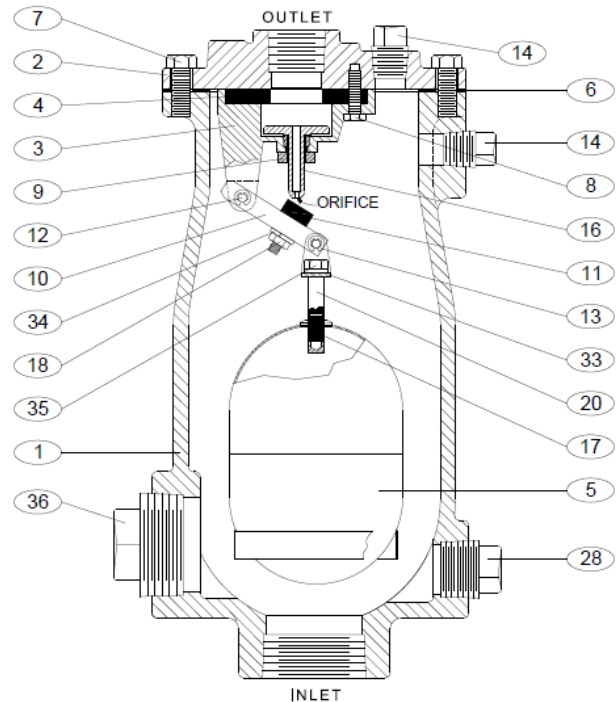

FIGURE 2. 1"-4" WASTEWATER COMBINATION AIR VALVE
The standard Wastewater Combination Air Valve body and cover are cast iron. See the specific Materials List submitted for the order if other than standard cast iron construction. All internal components are stainless steel with the exception of the orifice button, which is resilient. The general details of construction are illustrated in Figure 2. The body (1) is threaded for connection to the pipeline. The seat (4) is threaded into the cast cover (2).